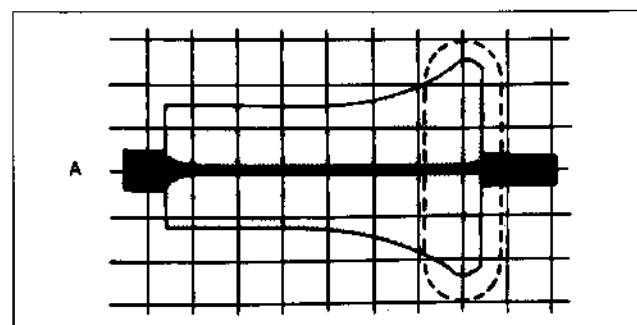
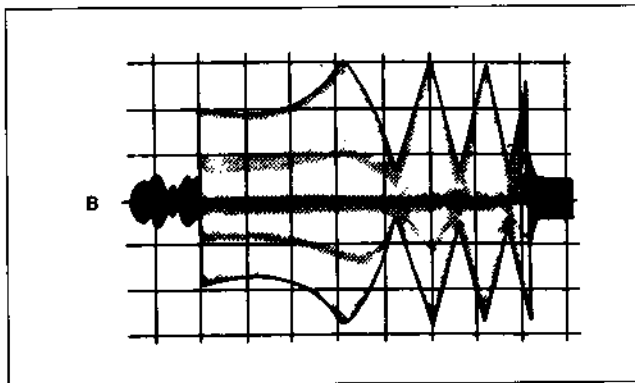

Fig. 7-43
Fig. 7-44.
- If the waveform is outside the range and it has such a shape as shown in Fig. 7-43, turn the tilt adjusting screw clockwise and adjust until the waveform is within the range.
- If the waveform is outside the range and it has such a shape as shown in Fig. 7-44, turn the tilt adjusting screw counterclockwise to change to the waveform A (Fig. 7-43.). Then turn the screw clockwise and adjust until the waveform is within the range.